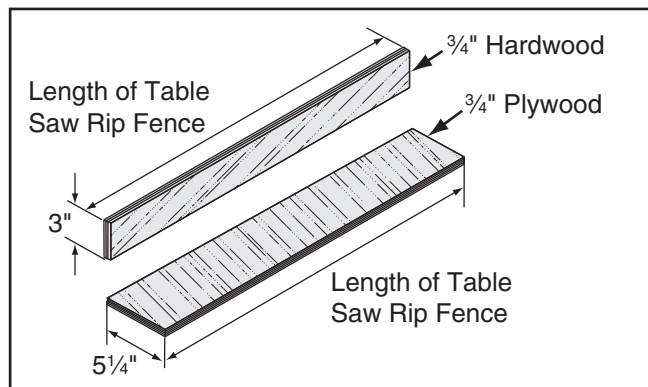

Figure 102. Auxiliary fence dimensions.
1. Cut a piece of $\frac{3}{4}$ " thick plywood 5 $\frac{1}{4}$ " wide and as long as your table saw fence; cut a piece of $\frac{3}{4}$ " thick hardwood 3" wide and as long as your table saw fence, as shown in **Figure 102**.